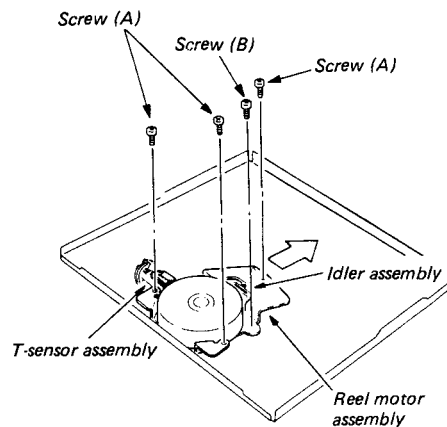

Fig. 1-3-36 Removal of reel motor assembly
1. Removal of reel motor assembly (Fig. 1-3-36)